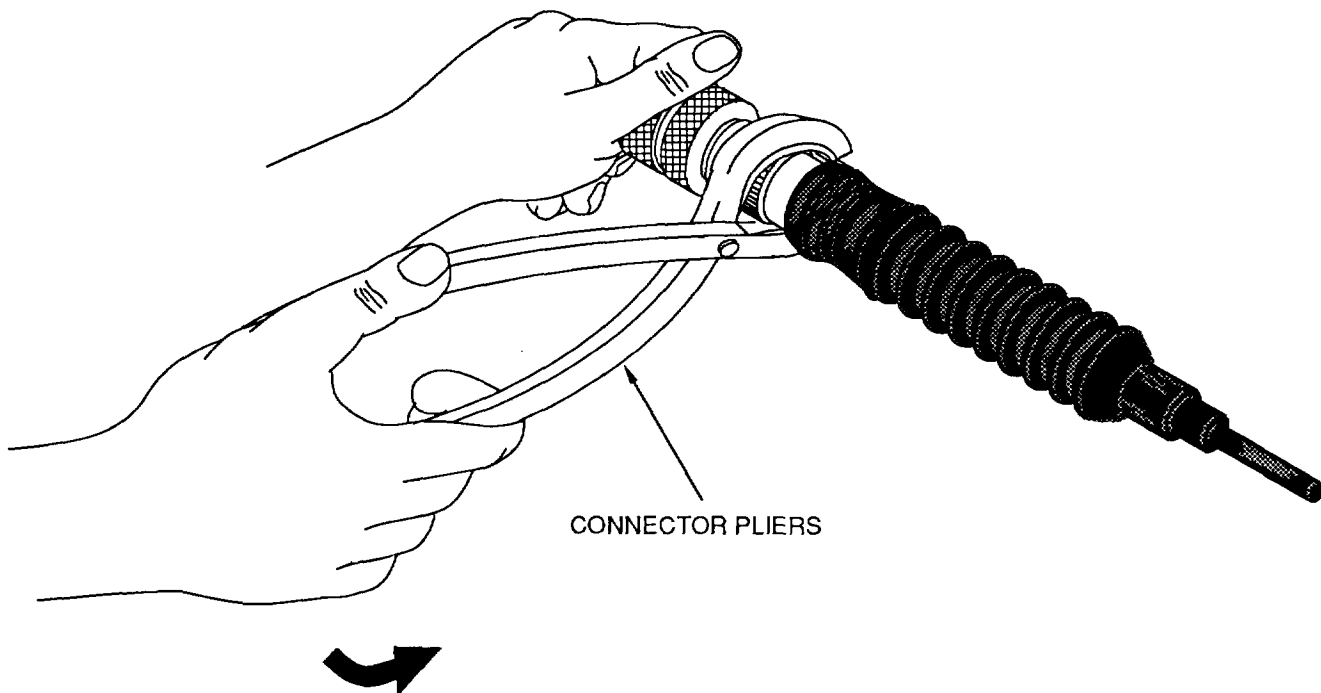

Figure 8. Removing Coupling Ring
b. Using connector pliers with plastic jaws, turn coupling ring counterclockwise (Figure 8)